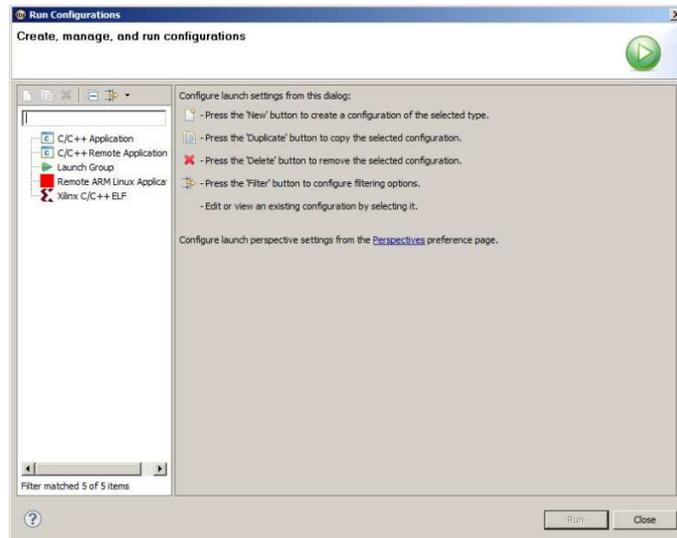
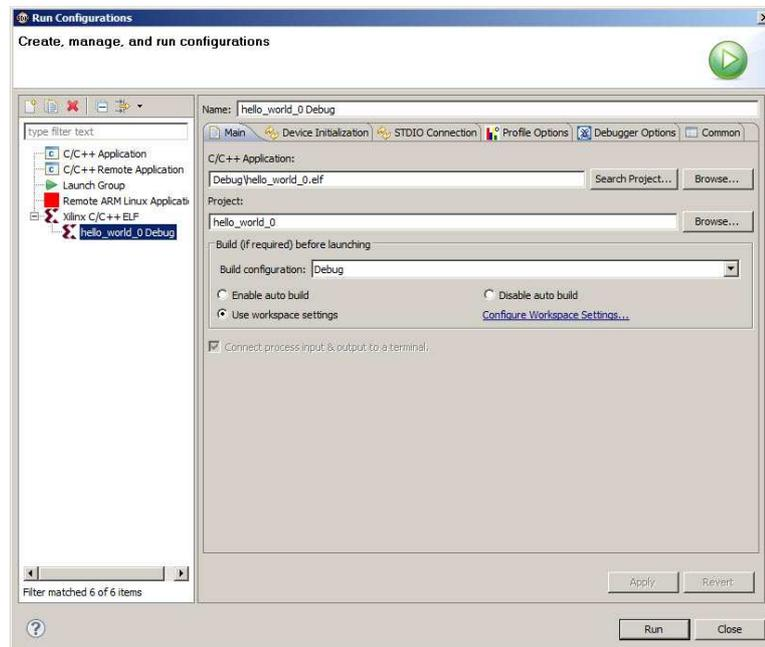

Figure 35. Run Configurations (Step 15)
Figure 36. Create, Manage and Run Configurations (Step 16)
**Step 15:** Point the mouse on “Run” and activate “Run Configurations”. A new window will appear as shown in Figure 35.
**Step 16:** Double click on “Xilinx C/C++ ELF”. The previous window (Figure 35) will modify to a new window as seen in Figure 36.